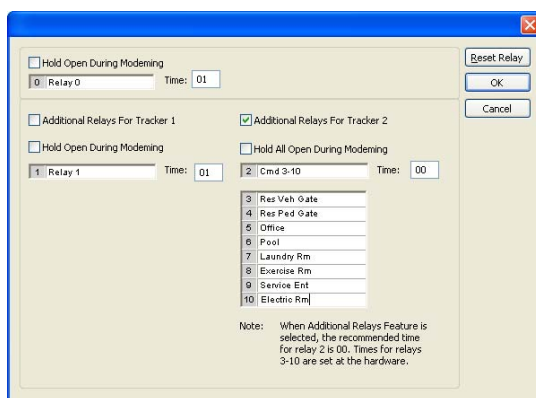

Figure 18
2. Click "Additional Relays For Tracker 2" button to enable system relays 3-10 (Fig 18).